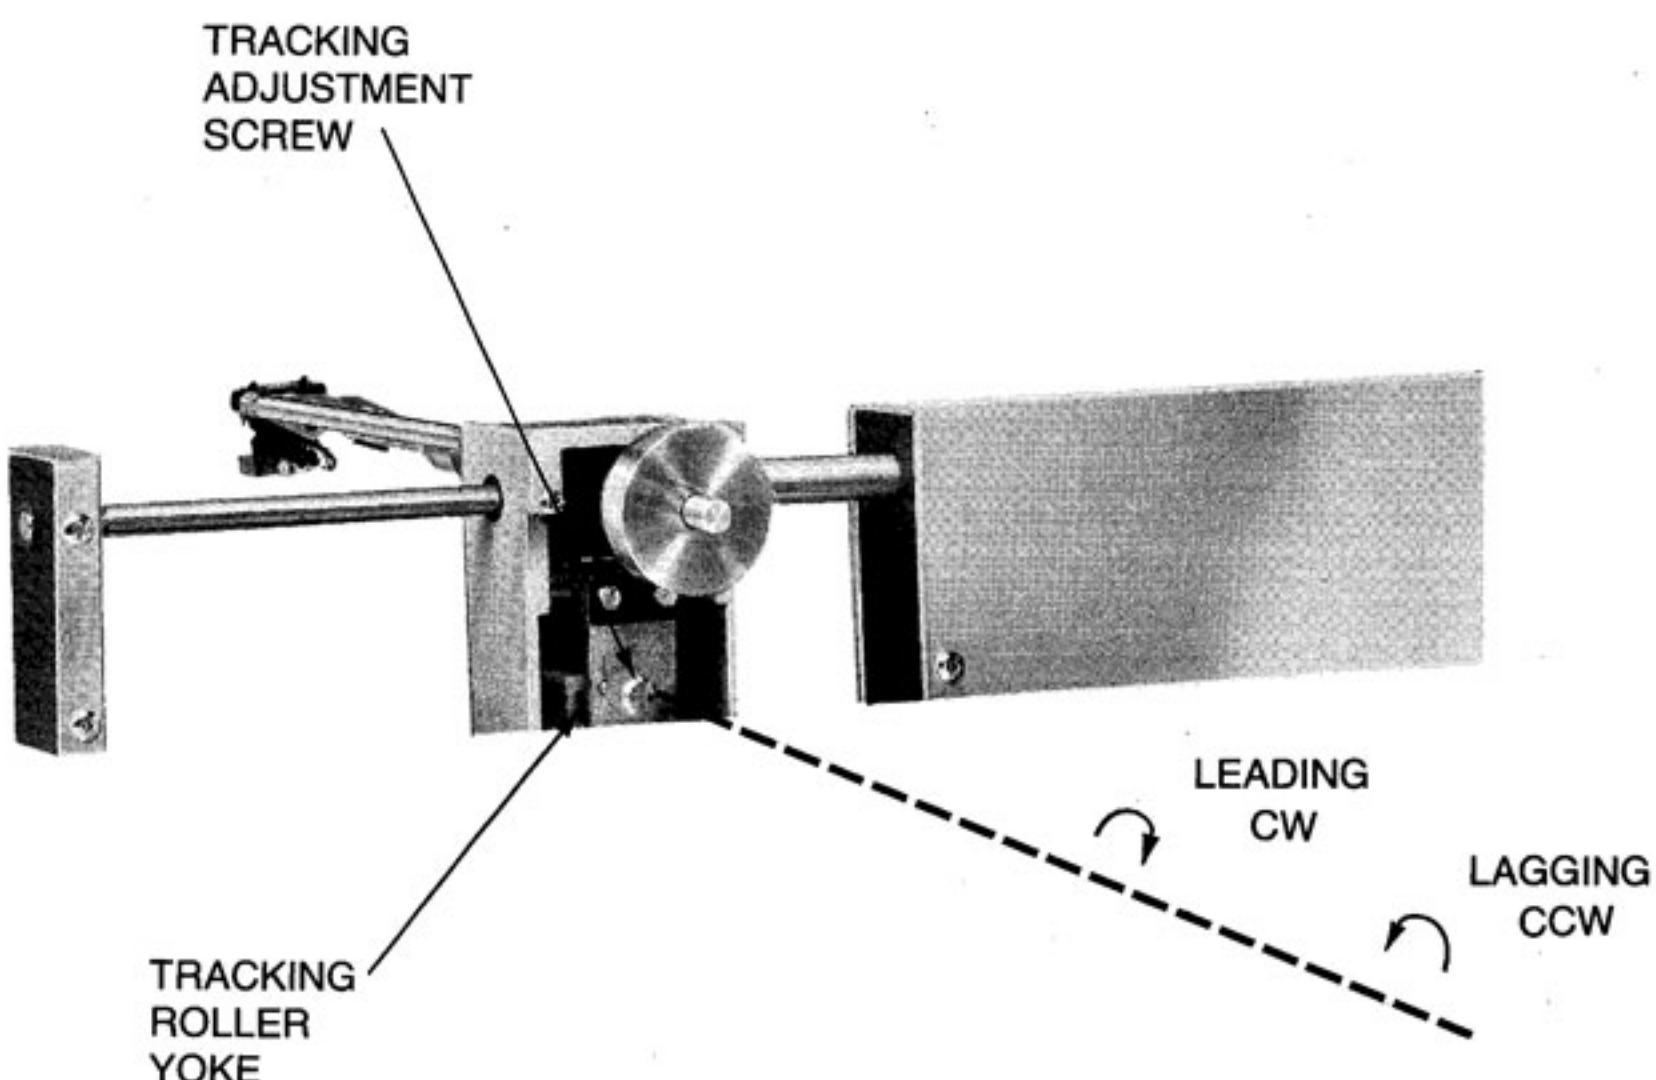

Figure 11.
D. Method of Adjustment (Refer to figure 11)